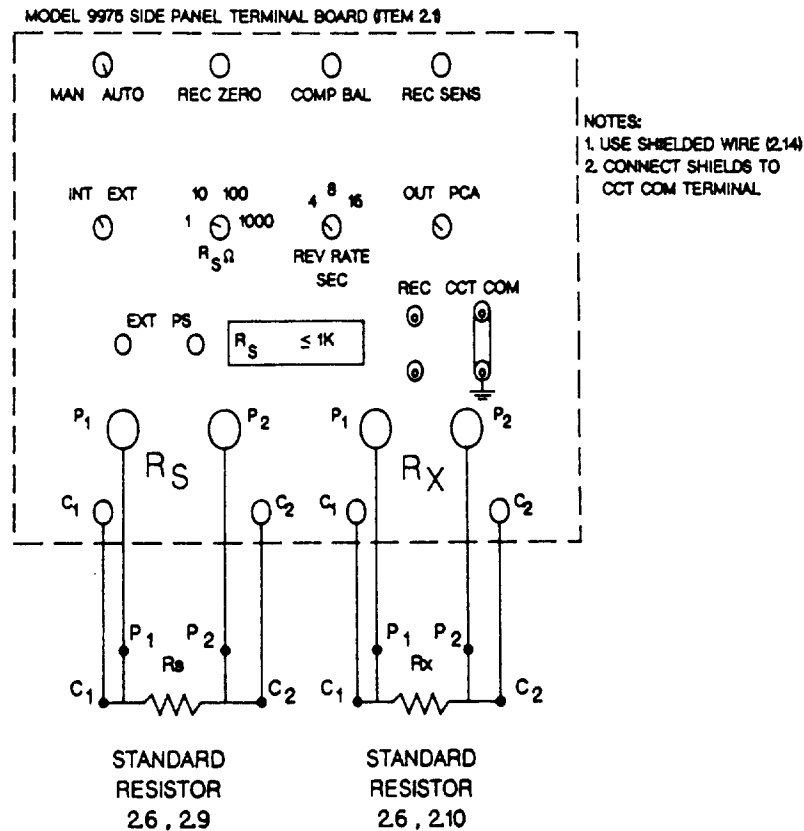

Figure 2. Resistance Test Setup
4.1.3 Connect the equipment as shown in Figure 2, using the 0.1 ohm Standard Resistor as R_s , and the first (of three) Primary Standard Resistors as R_x . Record the 0.1 ohm Standard Resistor Serial Number on Worksheet no. 1.